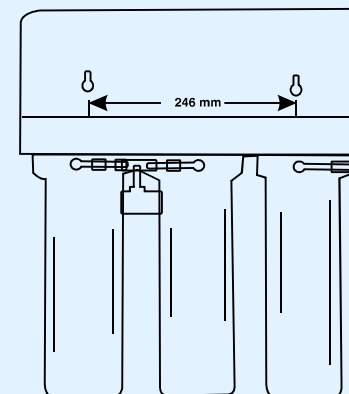

Figure 1
- Carefully hang the purifier on the wall with the help of wall mounting slot holes present on the back side of the purifier, as shown in the figure 1